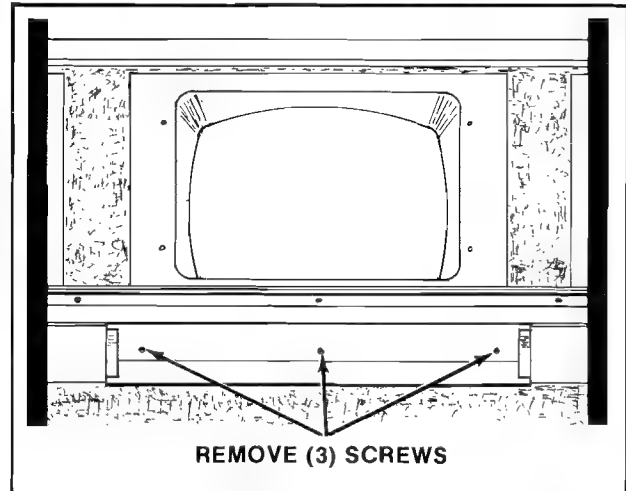

Figure 3-18 Removing Black Light Tube Mtg. Brkt. — Upright
- ☐ Remove the screws which secure the black light tube mounting bracket to the cabinet. See Figure 3-18.